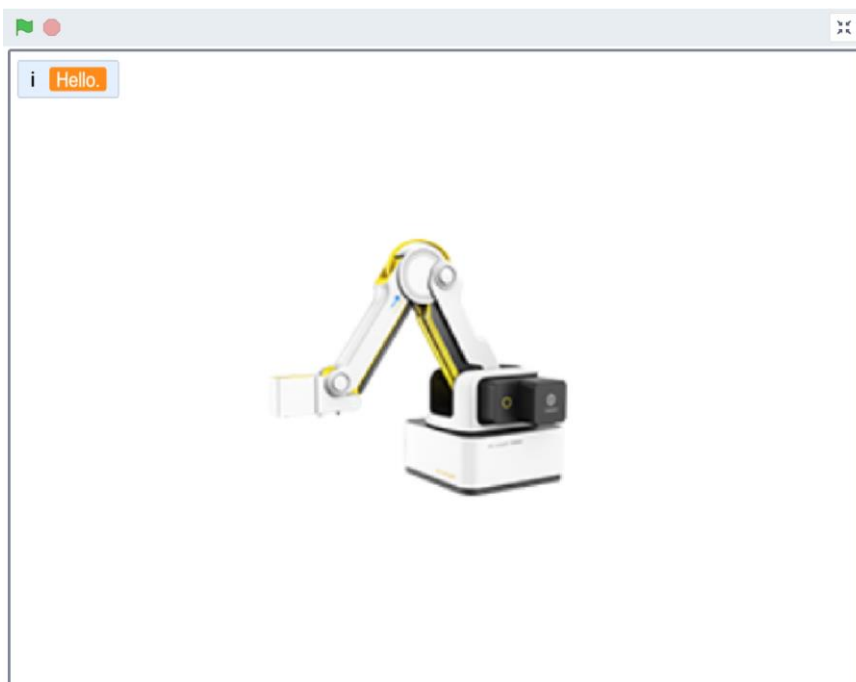

Figure 5.6 Speech recognition results displayed on the stage
Step 6: Click the small green flag to record the sound. You can see the speech recognition results on the stage. As shown in Figure 5.6.